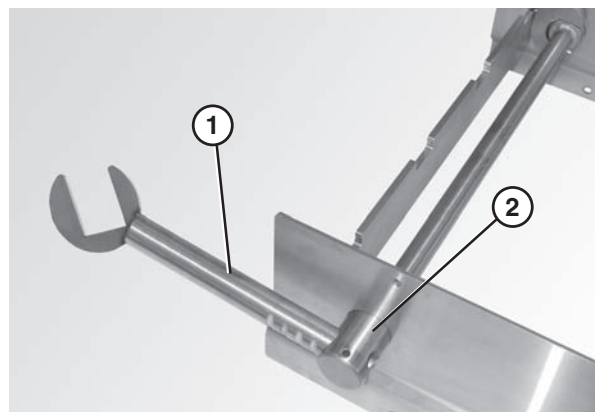

Figure 21
3. Attach nose bar idler shaft hands (Figure 21, item 1) to the tip up shaft (Figure 21, item 2).